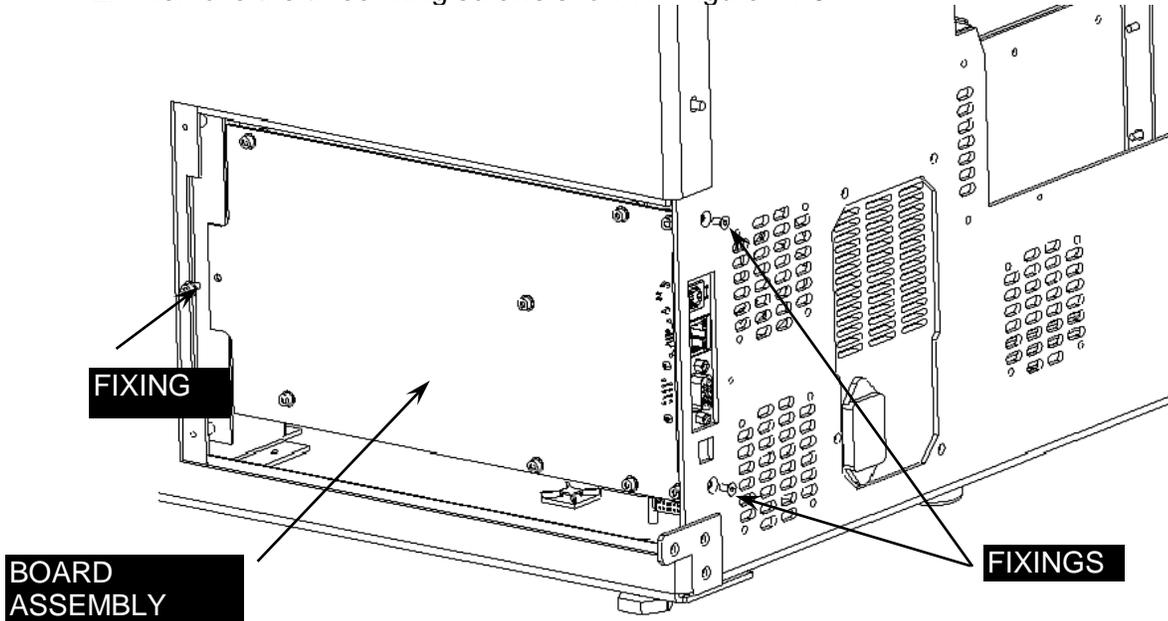

Figure 14-5: Fixing Screws for Board Assembly
2. Remove the three fixing screws shown in Figure 14-5.